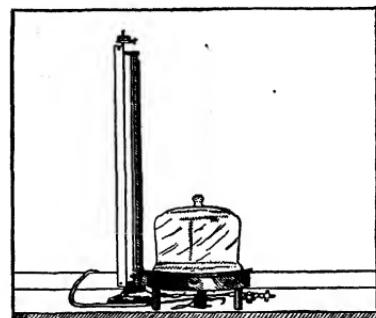

FIG. 32.—Kollsman testing apparatus.
**Apparatus for Tests in Workroom.** The Kollsman altimeter test stand is seen in Fig. 32. It has a bell jar and base, a pump, a standard altimeter, and a mercury barometer. The Kollsman manifold pressure gage test stand may also be used for testing altimeters.